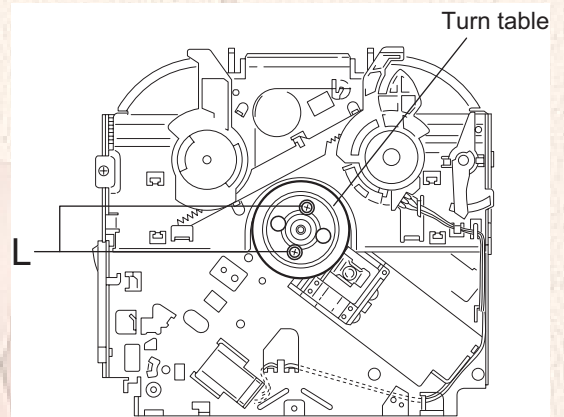

Fig.41
3.2.18 Removing the turn table / spindle motor (See Figs.41 and 42)